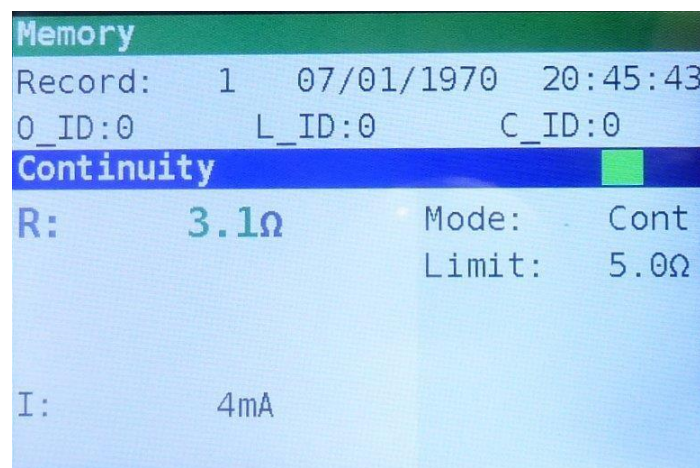

Figure 8.6: Saved results
Step 4 To store the result of last measurement, press **TEST** key. The following will be displayed (Figure 8.6).